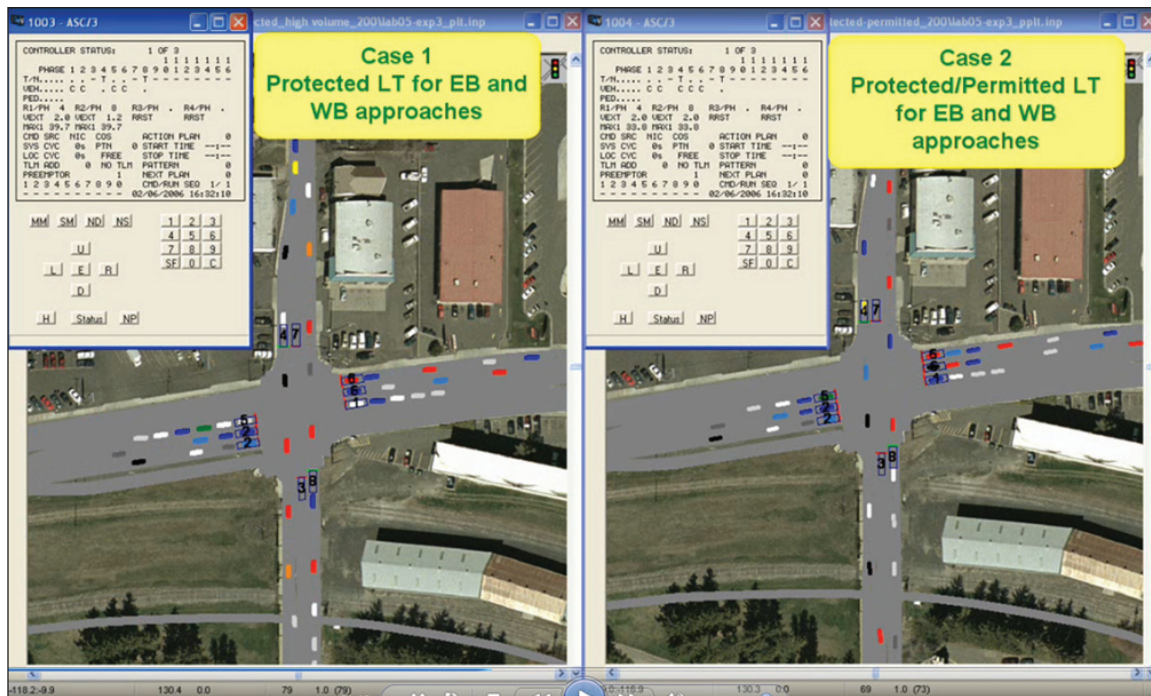

Figure 169. Animation comparing protected and protected plus permitted left turn phasing
- Observe the left turn vehicles on the eastbound and westbound approaches for case 1 (protected left turn) and case 2 (protected plus permitted left turn) (See Figure 169.)